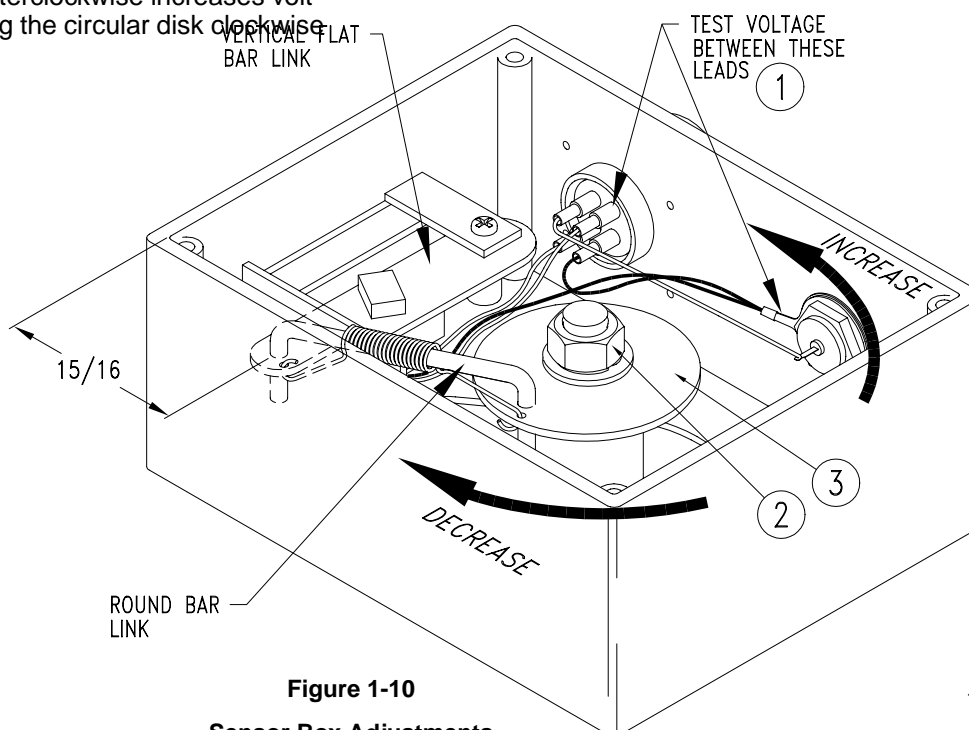

Figure 1-10
Refer to Figure 1-10.
1. The best and most accurate means of adjusting the linkage inside the sensor box makes use of a voltmeter which reads 0-12 volts DC. The Control Box in the tractor must be properly connected to a power source and the POWER switch must be ON. The TONGUE HYDRAULICS switch should be in the MANUAL mode. The wiring harness must be connected to the control box and the sensor box. The depth sensing wheel should be off the ground with the arm rotated down as far as its spring-loaded down-pressure link will allow. Remove the cover from the sensor box and inspect the internal linkage for proper assembly as shown in Figure 1-10.
2. The second means of adjusting the linkage inside the sensor box involves measuring from the inside edge of the box to the left pivot of the formed round-bar link. The depth sensing wheel should be off the ground and rotated down as far as its spring-loaded down-pressure link will allow. Remove the cover from the sensor box and inspect the internal linkage for proper assembly as shown in Figure 1-10.